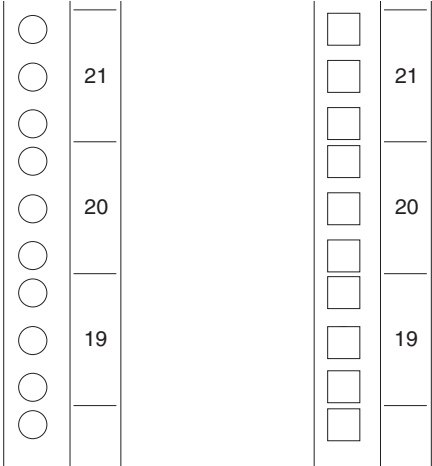

Figure 14. Measuring U levels within rack cabinets
All vertical rack cabinet measurements are given in rack units (U), where 1U is equal to 4.45 cm (1.75 in.). The U levels are marked on labels on the front and rear mounting flanges inside of the rack cabinet, as shown in Figure 14.